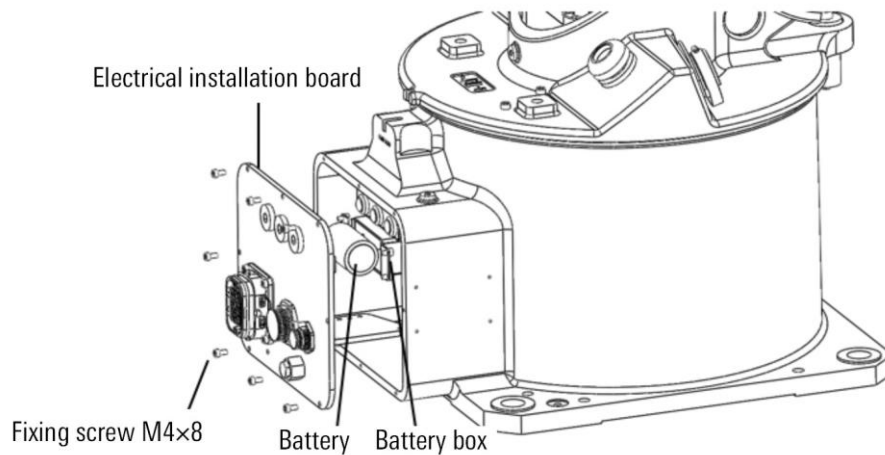

Figure 12-3 Replace battery
Step3. Remove the battery cover as shown in Figure 12-3 above.